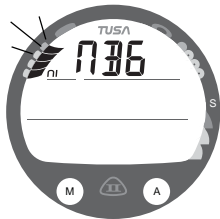

Fig. 22 - SET NIBG AL
**Set NiBG Alarm**, information includes (Fig. 22):